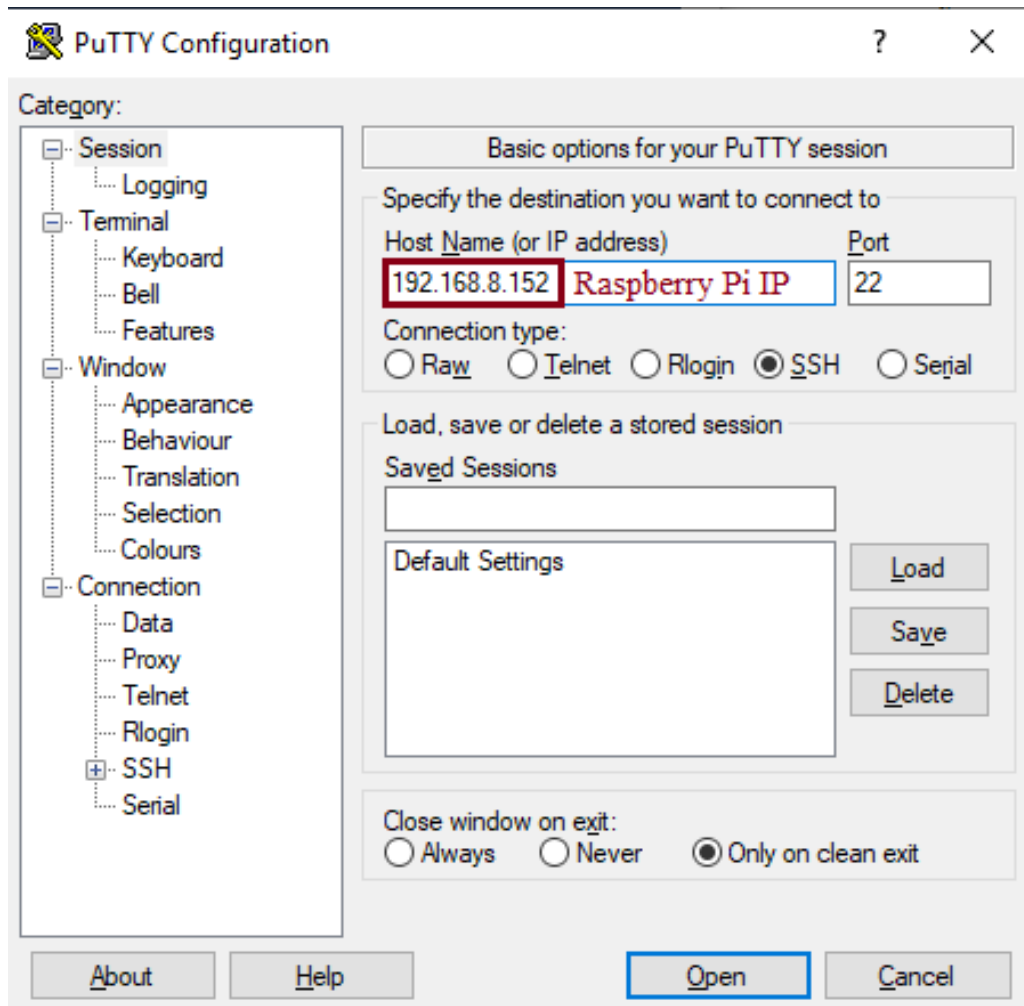

Figure 4: Raspberry Pi SSH Configuration in PuTTY.
5. You are now ready to connect via SSH. Windows users might want to install the PuTTY SSH client (<http://www.chiark.greenend.org.uk/~sgtatham/putty/download.html>). Figure 4 shows an example PuTTY configuration. Linux and OS X users can run SSH from their terminals: